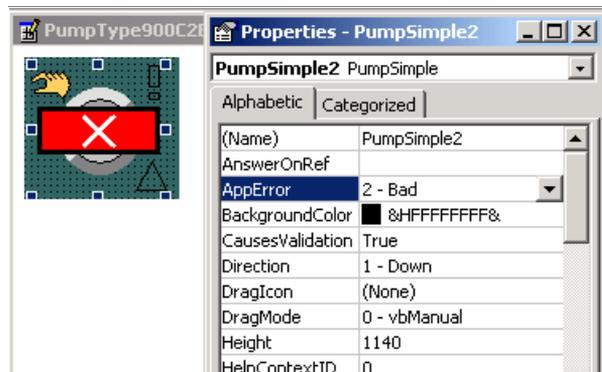

Figure 119. Creating a Pump Element
1. In Plant Explorer, select the **Object Type Structure**, and then the **Pump object type**. See Figure 119.
5. Select the PLC Subelements tab, and then create a **PumpSimple** element. See Figure 119.